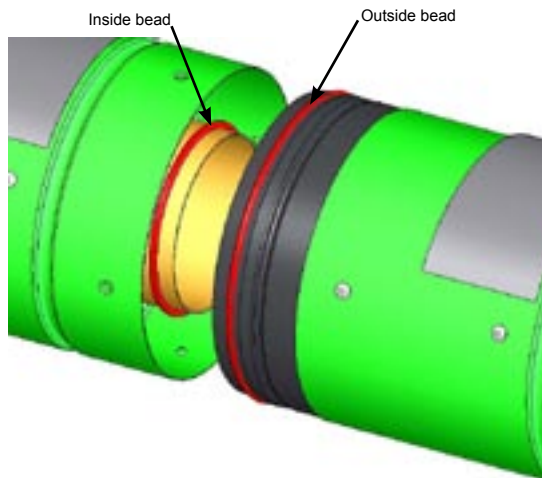

Figure 9
- The use of three (3) sheet metal screws (self-tapping screws are recommended) is required at every connection. Do not use longer than 3/4 in. (20mm) screws to prevent damage to the inner pipe. The indents in the pipe will assist in the placement of the screws.
- **High temperature (500F/260C) silicone sealant is required on all 3 in. diameter inside joints.** Either high temperature or clear silicone sealant is recommended for the outer 5 in. outside joint. A 1/8 in. (3mm) bead, 1/2 in. (12mm) from the male (cripped) end of both sections of pipe is recommended. See Figure 9.